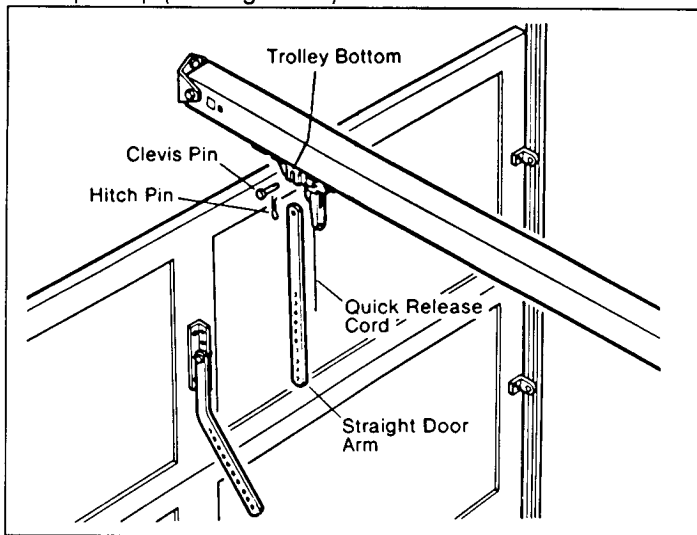

Figure 20
Step 39: Remove clevis pin and hitch pin clip from trolley. Insert the straight section of the door arm into the quick-release trolley bottom and slide the clevis pin through the quick-release trolley bottom and door arm. Lock in place with hitch pin clip (see Figure 20).
Step 53: To increase the "down" distance turn the slotted "Down Limit" screw in the counter clockwise direction (see Figure 20). Note that each turn is equal to approximately one inch of door travel. Then estimate the number of turns required.